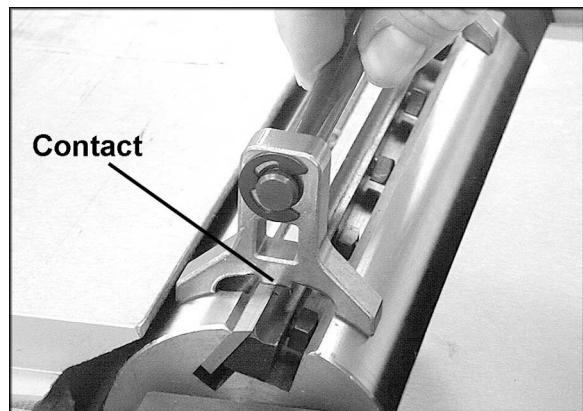

Figure 17
6. Rotate the cutterhead (using the pulley) until the tip of the knife is at the top of the cutterhead arc. Place the knife setting gauge (Figure 17) over the cutterhead so the tip of the knife contacts the center of the gauge, and all four "feet" of the gauge rest firmly upon the cutterhead, as the knife is pushed down into its slot. The gauge will set the knives at approximately .070" above the cutterhead. Knife height should not vary more than .002-.003" across the length of the cutterhead.